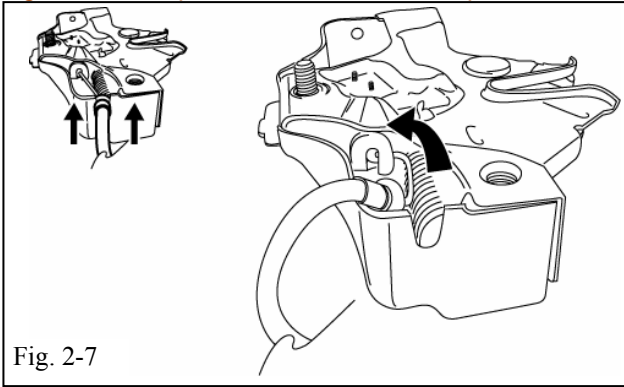
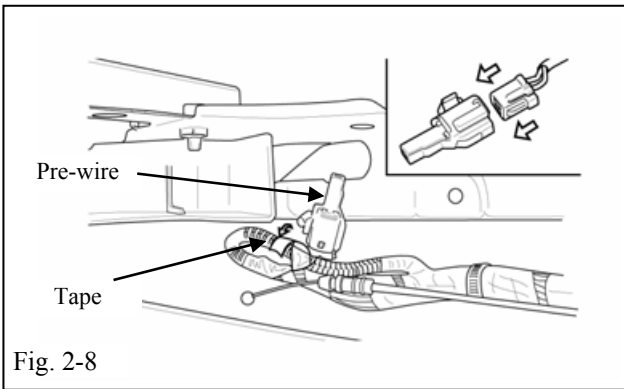
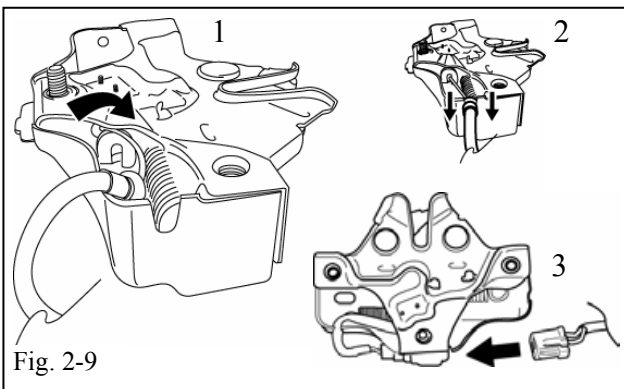

Fig. 2-7
Fig. 2-8
Fig. 2-9
- (h) Disconnect the Vehicle Hood Latch from the Hood Latch Cable. (Fig. 2-7)
- (1) Pull the Cable upwards and out of the notch in the Vehicle Hood Latch Casing.
- (2) Use the Braided Cable to guide the Ball out of the Vehicle Hood Latch.
- (3) Discard the Vehicle Hood Latch.
- (i) Locate the Hood Switch Pre-wire, Black 2P Connector, and remove the tape securing it. (Fig. 2-8)
- (j) Remove the Connector Cover from the Hood Switch Pre-wire. (Fig. 2-8)
- (1) Discard the Connector Cover.
- (k) Connect the V4 Hood Latch to the Vehicle Hood Latch Cable. (Fig. 2-9)
- (1) Use the Braided Cable to guide the Ball into the V4 Hood Latch Lever.
- (2) Affix the Cables Shielding to the V4 Hood Latch Case by pressing it down into the Notch in the Case.
- (l) Connect the Black 2P Hood Switch Pre-wire to the V4 Hood Latch. (Fig. 2-9)
- (1) Verify that the connector is secure.